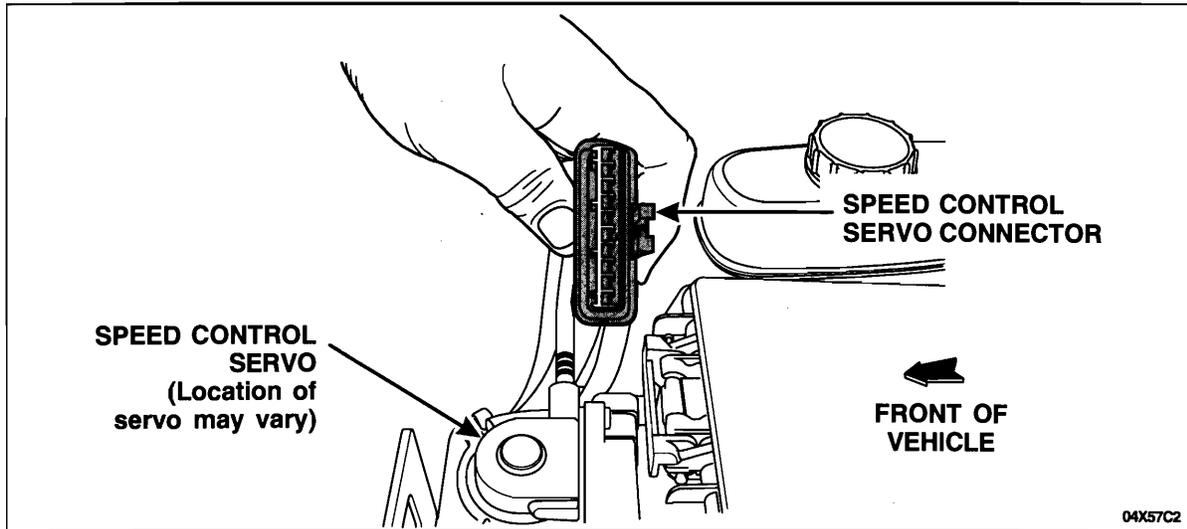

FIGURE 7
6. Disconnect the speed control servo and inspect the vehicle harness connector for heat damage. See Figure 7.